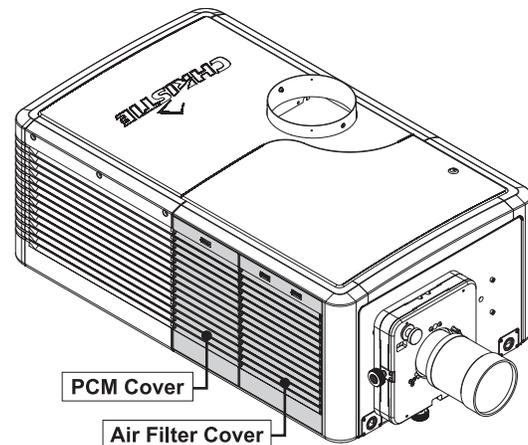

FIGURE 1-6 AIR FILTER COVER AND PCM
1. Push on the tab at the top of the cover. See Figure 1-6.